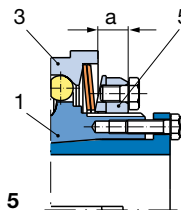

Fig. 5
- EAS®-Compact® ratchetting and synchronous clutch (sizes 01-3): Dimension “a” is the distance between the adjusting nut facing side (5) to the pressure plate facing side (3) (Fig. 5).